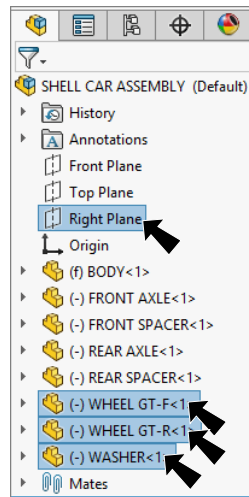

Fig. 20
Step 2. **Ctrl click Right Plane** , **both Wheels and Washer** in the Feature Manager, **Fig. 20**. To **Ctrl click**, hold down the **Ctrl** key and click **Right Plane** , **both Wheels and Washer**.